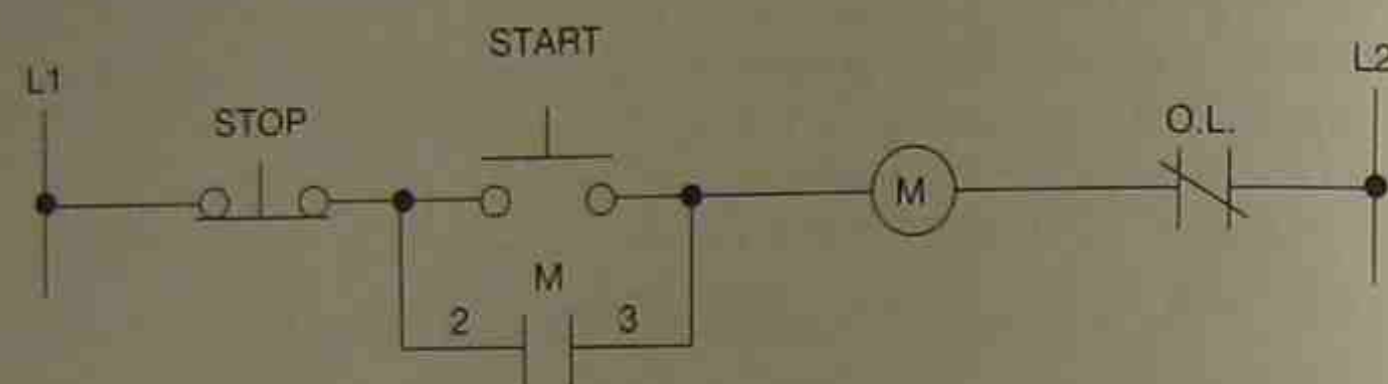

Figure 7-9 Ladder Diagram for Basic *STOP/START* Circuit
From viewing the ladder diagram in Figure 7-9, it can be seen that when power is applied to the circuit, the motor starter coil M cannot energize because there is an incomplete path for current flow due to the open *START* button and the normally open M contacts (2 and 3). The *START* button and the N.O. M contacts are wired in parallel and have an OR relationship. When the *START* button is pushed, a path for current exists from L1 potential through the normally closed *STOP* button, through the now closed *START* button through the coil of the motor starter (M), and on through the N.C. overload contacts to L2 potential.